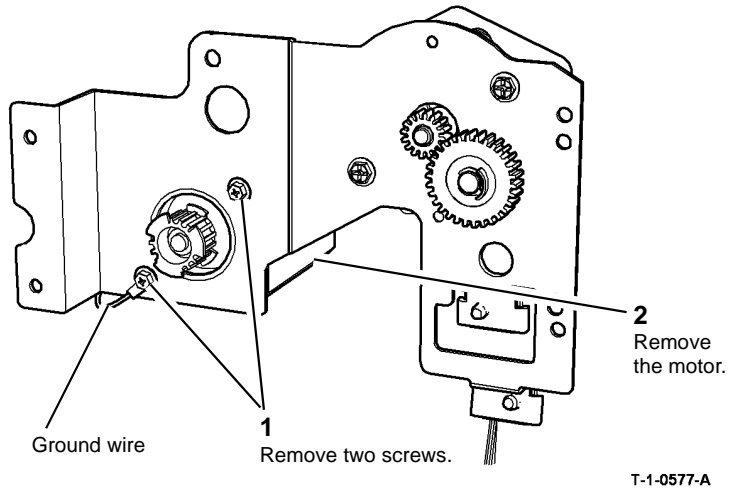

Figure 2 Transport motor removal
3. Remove tray 5 transport motor, Figure 2.
2. Ensure that the ground wire terminal is located under the motor securing screw, Figure 2.